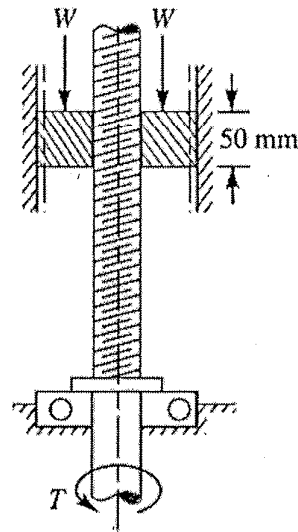

Figure Q3
- b. Figure Q3 shows a screw, which operates by application of a torque at the bottom end. The suitably designed guides prevent the rotation of the loaded nut of 50 mm height. The screw is a triple start trapezoidal thread, which the outer diameter is 48 mm and 8 mm pitch. The angle of the trapezoidal thread ( $2\beta$ ) is  $30^\circ$ . The coefficient of friction of the treads is 0.15. Neglecting the friction of the ball bearing and the collar, find,